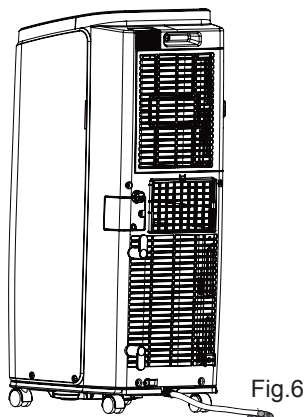

Fig.6
1. In Cool, Dry or Heat mode operating, the condensation water will be drained to the chassis.(As show in Fig.6)